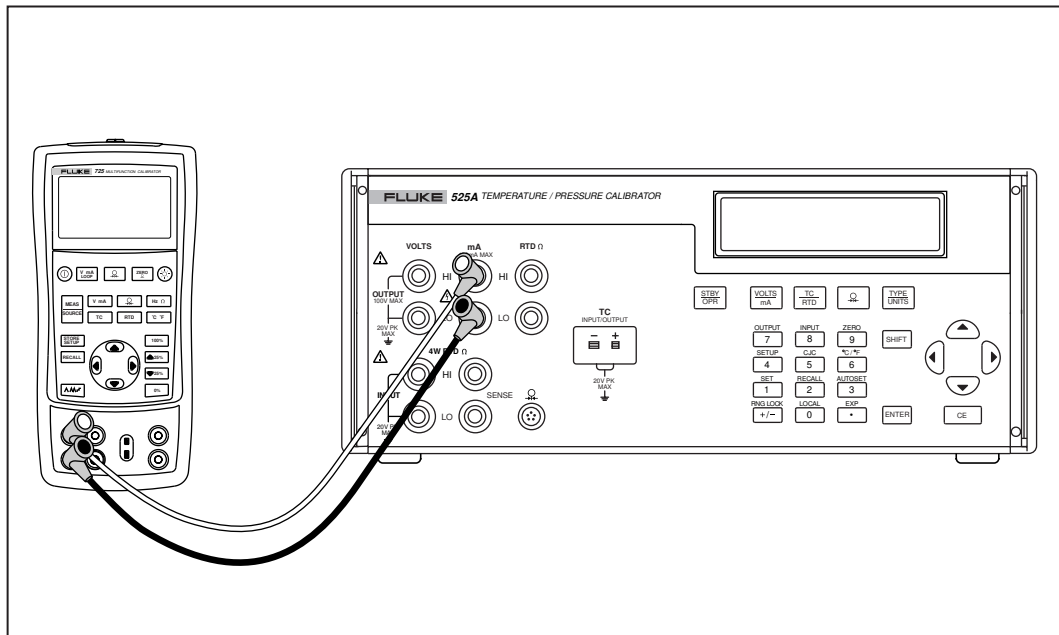

Figure 2-5. Connection for Setting Current Output
1. Connect the Calibrator to the UUT as shown in Figure 2-5.